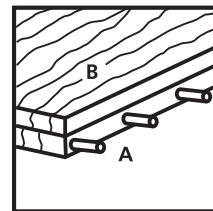

Figure 18
- Remove board A from the clamps and lay it flat on the workbench with the dowel pins facing out. Place board B on top of board A with the side you want to drill facing up. Line up the end of the boards using a square. Clamp both boards on both sides of the workbench. See Figure 18.